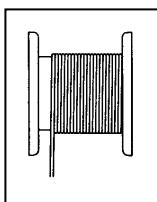
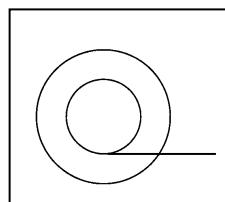

Fig 3. Correct (even) winding
Fig 6. Rope exit under the drum
- Check the winch and its function before use. The rope must be correctly wound onto the drum. See Fig 3.
Winches are supplied with a wound-on wire rope fitted with load hook. Make sure the wire rope is correctly wound onto the drum. See Figs. 3, 4 and 5. There must be at least **three rope turns** on the rope drum when the rope is fully uncoiled. The rope exit should be from the underside of the rope drum as shown on Fig. 6 to ensure minimum strain on the winch fixings.
When replacing the wire rope, be sure to choose the right rope (diameter and construction) as indicated in "Technical data". Insert the end of the new rope in the hole in the drum and pull it towards the integral clamp with Allen bolt, see Fig. 10. Wind it on without twisting and ensure that the rope lies evenly and closely spaced, as shown on Fig. 3.